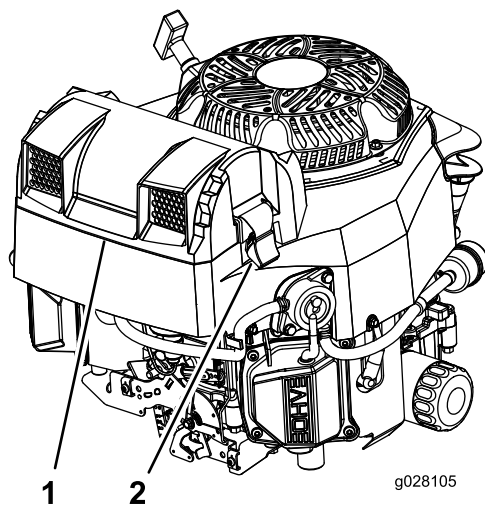

Figure 44
3. Release the latches on the air cleaner and pull the air-inlet cover off the air-cleaner body (Figure 44).
5. Install the air-inlet cover and secure it with the latches (Figure 44).